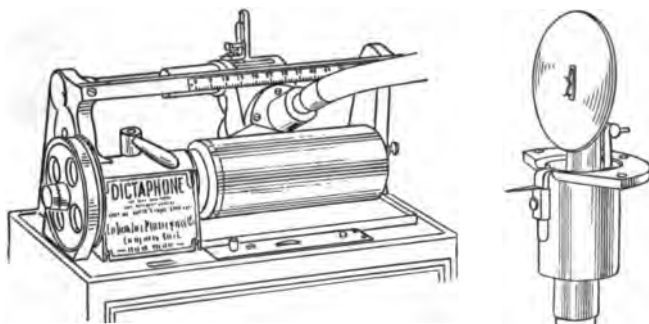

FIG. 374.—Cylinder form of phonograph and diaphragm with recording and reproducing points.
**406. The phonograph.** The phonograph (Fig. 374), which was invented by Thomas Edison, is a remarkable machine
vibrate in such a way as to reproduce the original sounds. In the machine shown in figure 374, the sharp and the rounded points are both mounted near the center of the same diaphragm, as shown at the right. The diaphragm can be moved forward and back a little so that only one of these points touches the cylinder at any time.